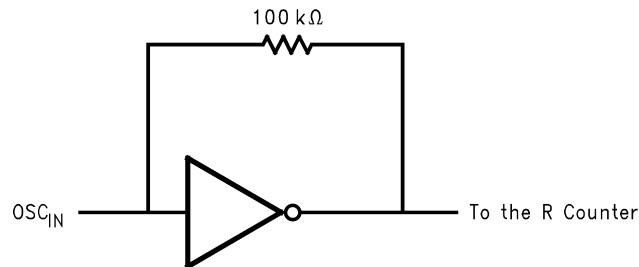

Figure 4.
**50Ω termination is often used on test boards to allow use of external reference oscillator. For most typical products a CMOS clock is used and no terminating resistor is required. OSCIN may be AC or DC coupled. AC coupling is recommended because the input circuit provides its own bias. (See Figure 4 below.)